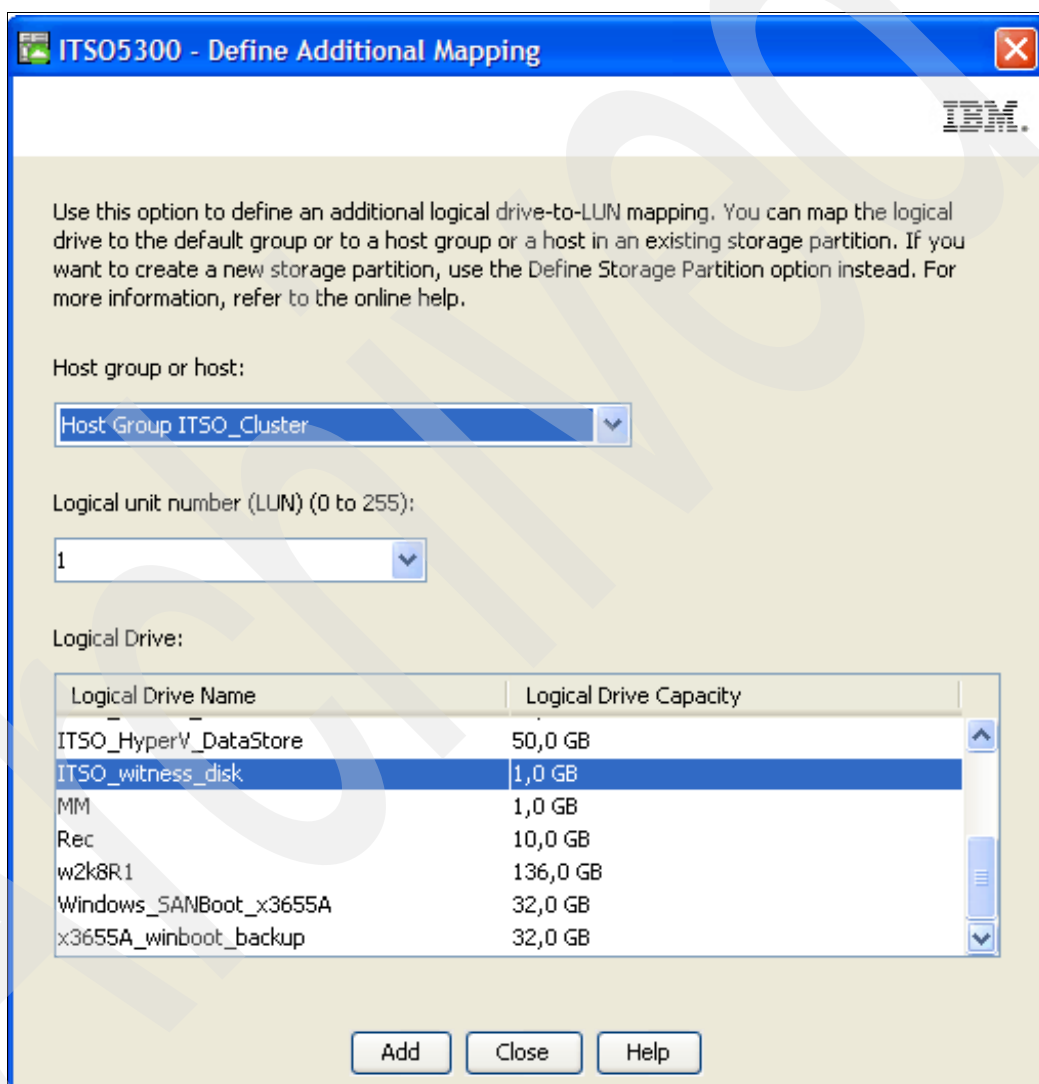

Figure 5-82 Storage Manager - shared disk mapping
3. In Storage Manager mapping view, map the witness disk to the host group *ITSO_Cluster* as LUN number 1 (Figure 5-82), which is the first LUN mapped to both cluster nodes. LUN #0 must be used to be the boot LUN on each of the nodes.